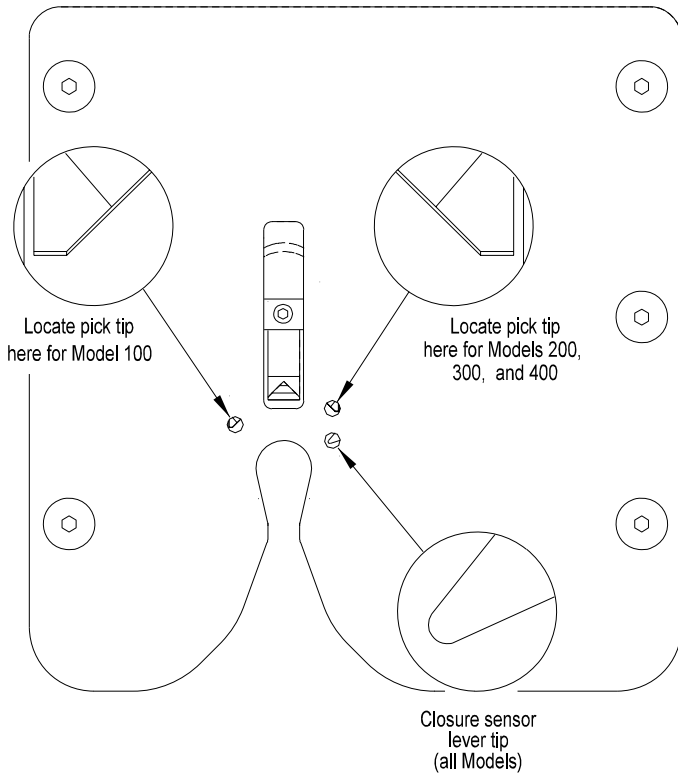

Figure 3.8
G. SENSOR LEVER STOP ADJUSTMENT (Figures 3.8 & 3.9):
4. Determine the correct inspection hole for the model for your closer (Figure 3.8). The tip of the pick should be visible in half of the inspection hole as shown. Reposition the pick if needed as follows:
7. Slide the motor assembly until the pick is in the proper position when viewed through the inspection hole (Figure 3.8).